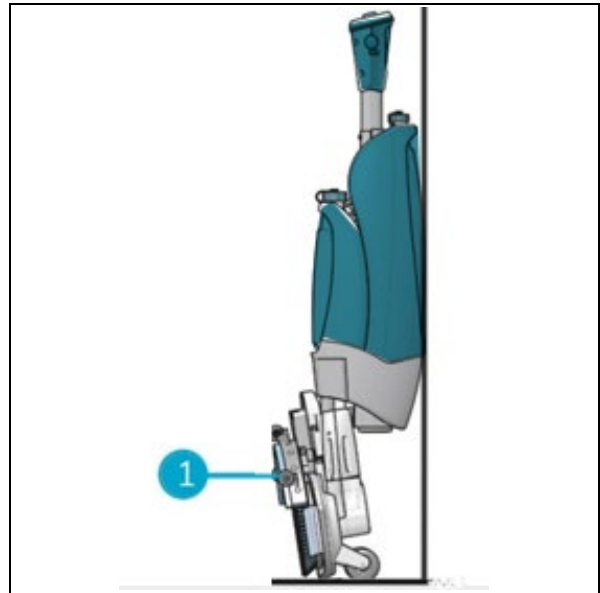

Figure 33
3. Store the i-mop® XL close to a wall (Figure 33, pos 1) with the handle pointing towards the wall and the brushes facing away from the wall.